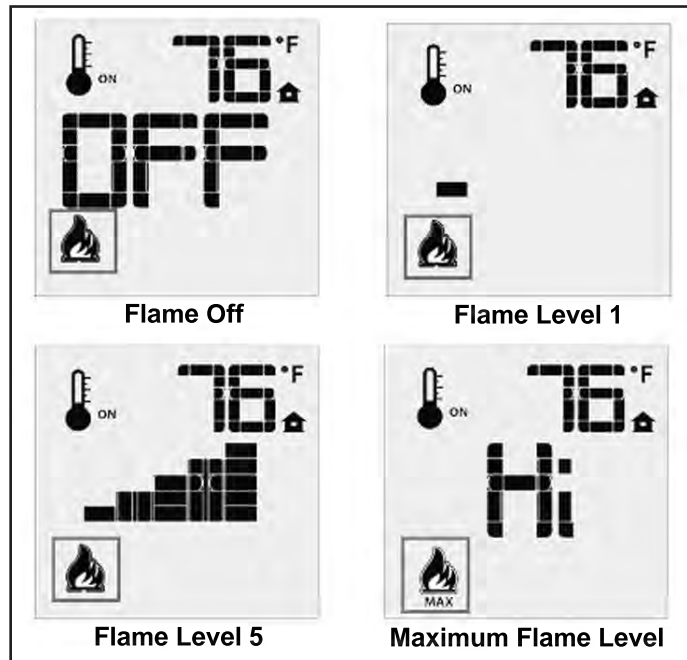

Figure 13: Remote Control's Flame Levels.
The Proflame GTM has six (6) flame levels. With the system on, and the flame level at the maximum in the appliance, pressing the Down Arrow Key once will reduce the flame height by one step until the flame is turned off. The Up Arrow Key will increase the flame height each time it is pressed. If the Up Arrow Key is pressed while the system is on but the flame is off, the flame will come on in the high position (refer to Figure 13). A single “beep” will confirm reception of the command.